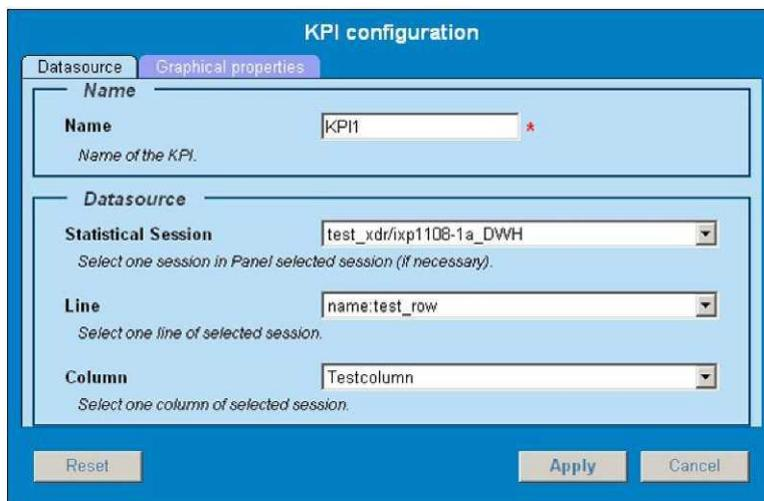

Figure 12: KPI Configuration Screen
- In a child record, click **Add record** to open the KPI *configuration* screen shown in Figure 12: KPI Configuration Screen.